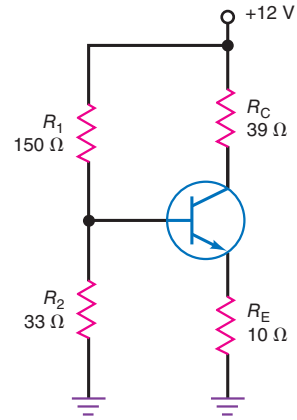

Figure 33-53
- 33.13 What is the approximate value of the collector voltage in Fig. 33-53 for each of these troubles?